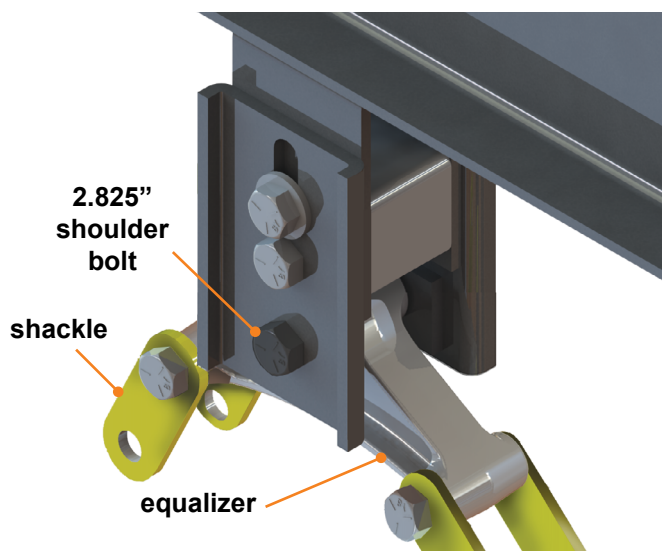
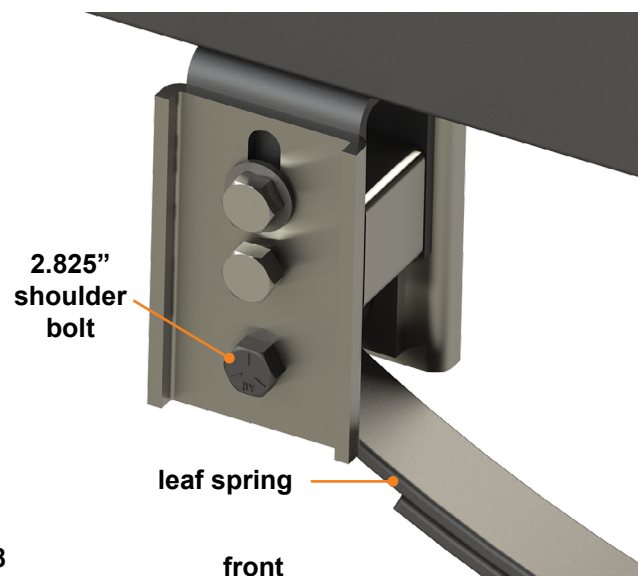
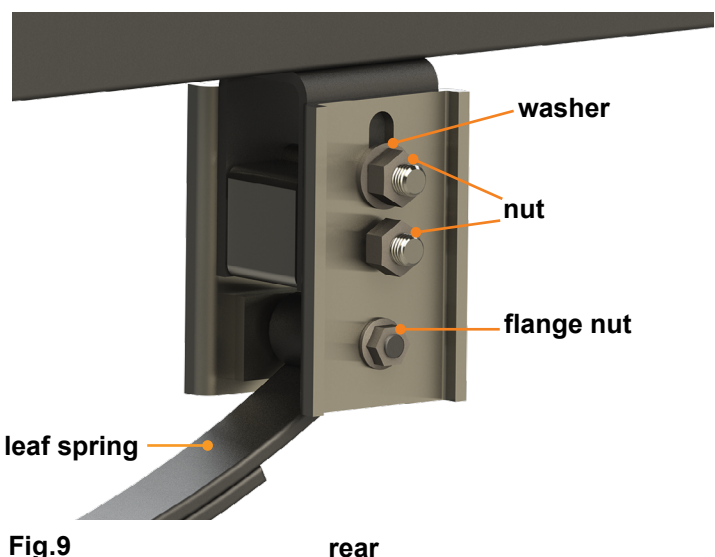

Fig.7
Fig.8
Fig.9
6. Bolt the equalizer assembly back into the new plate assembly using a 2.825" shoulder bolt (bolt length 3.375") and a flange nut to secure it (**Fig.7**).
8. Use floor jacks to raise the axle, bringing the eye of the leaf spring back into the hanger (**Fig.8**) and/or equalizer/shackle area (**Fig.7**).
9. Bolt the leaf spring assembly together using a $\frac{9}{16}$ " x 2.825" shoulder bolt (bolt length 3.375") and a flange nut (**Fig.8 and Fig.9**).